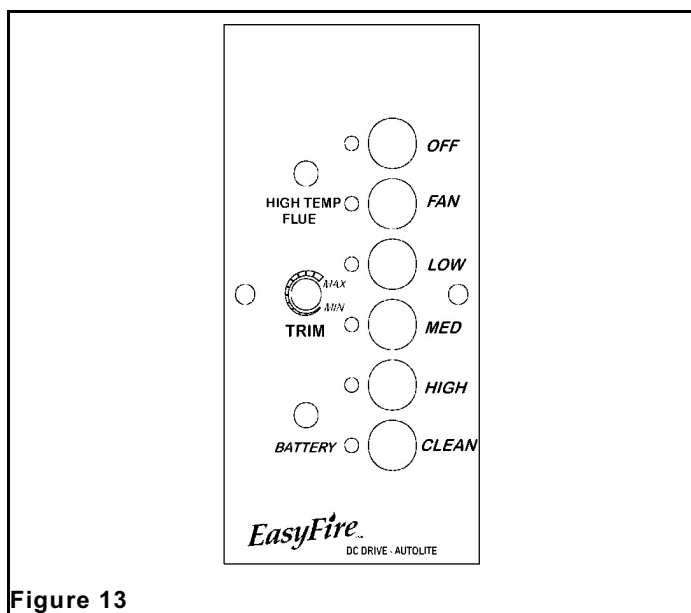

Figure 13
- C. In the **MEDIUM** position the EASYFIRE will be feeding approximately three (3) pounds of pellets per hour and the flame will fluctuate between 3" and 8" of fire.
**3. Starting the Stove:** Push a Heat Range button (Low or Medium is best for start up) (**Figure 13**) and turn the thermostat up to "Call for heat". The stove fan will begin to operate along with the ignitor cycle. After about a minute the pellets will begin to fall in the burn pot. After five minutes there will be a fire in the burn pot and the stove will begin to heat up. When the stove reaches start up operating temperature it will then switch to the control panel setting and begin it's automatic operation cycle.